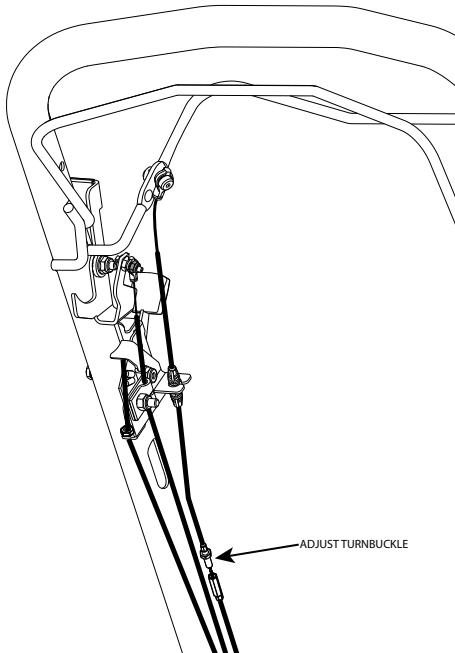

Figure 6-2. Blade Brake Cable Adjustment
4. With the blade control bar in the disengaged position, adjust the cable by loosening the locking nut on the turnbuckle, then turn the adjusting wheel to either shorten or lengthen the cable as needed; once the desired tension is achieved, tighten the locking nut to secure the adjustment. To achieve desired tension tighten until the cable has slight tension, then loosen just enough to introduce a very small amount of slack when the cable is disengaged. See Figure 6-2.